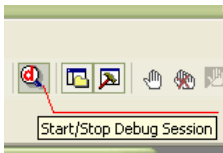

FIGURE 27 Starting a new μ Vision3 debug session.
1. Start a new debug session by clicking the Start/Stop Debug Session μ Vision3 toolbar button (Figure 27).